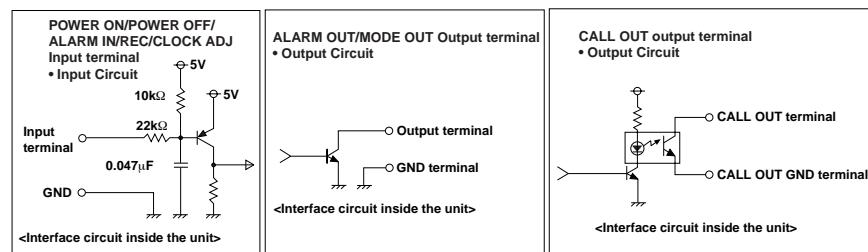

Figure 10. Schematics for Input and Output Terminals
4. Optional. Connect equipment to the CLOCK ADJ, REC, MODE OUT, and CALL OUT terminals. Refer to Figure 10 for schematics of the input/output terminals.